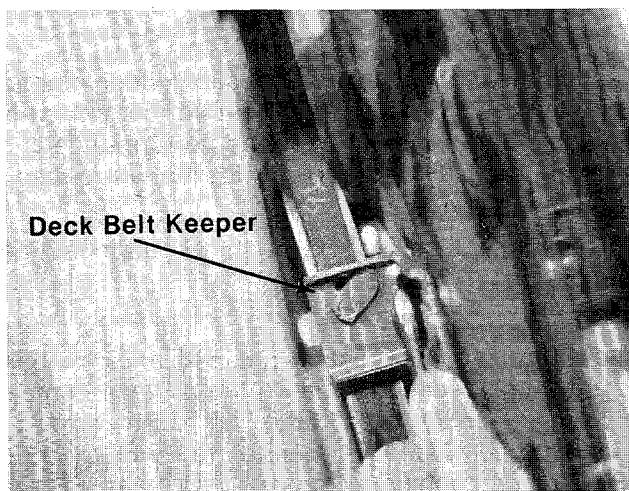

FIGURE 21. REMOVAL OF DECK BELT KEEPERS
3. Remove two belt keepers at the deck pulley and shoulder bolt. See figures 21 and 22.